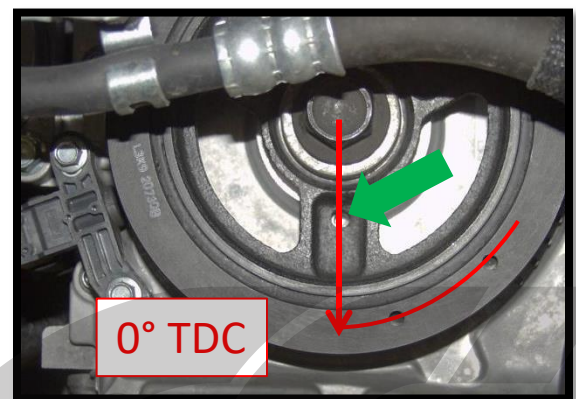

Figure 5i
- i) Rotate the Crankshaft clock wise, back to TDC (**Figure 5i**).